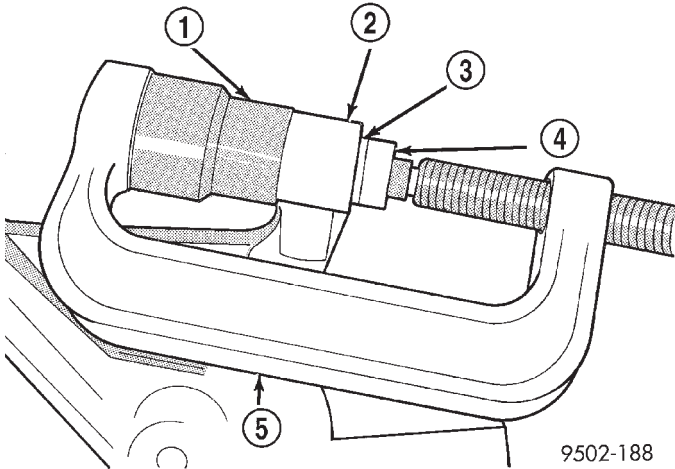

Fig. 81 Removing Front Bushing From Lower Control Arm
(2) Install Bushing Remover, Special Tool 6602-5 and Bushing Receiver, Special Tool MB-990799 on Special Tool C-4212-F.
(3) Install lower control arm on Special Tools assembled for removal of the front isolator bushing. Be sure Special Tool MB-990799 is square on lower control arm and Special Tool 6602-5 is positioned correctly on isolator bushing (Fig. 81).
(4) Tighten screw on Remover/Installer Special Tool C-4212-F to press front bushing out of lower control arm.